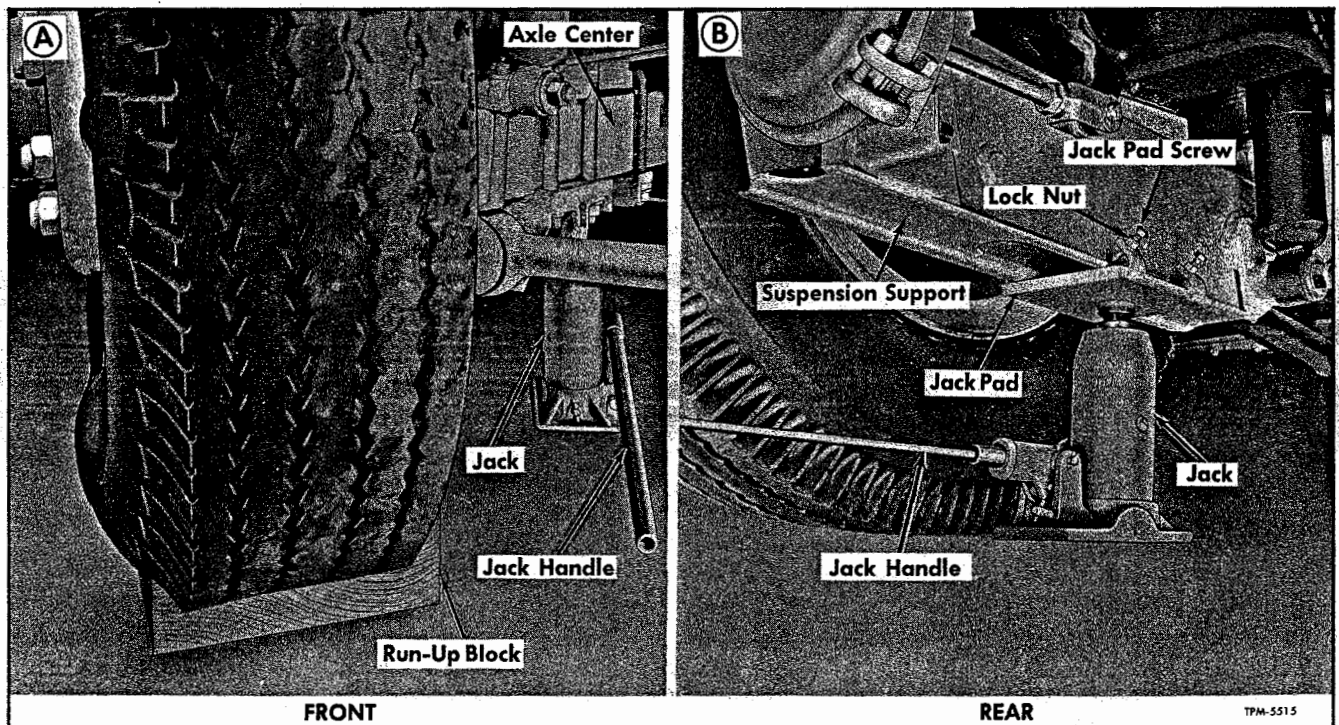
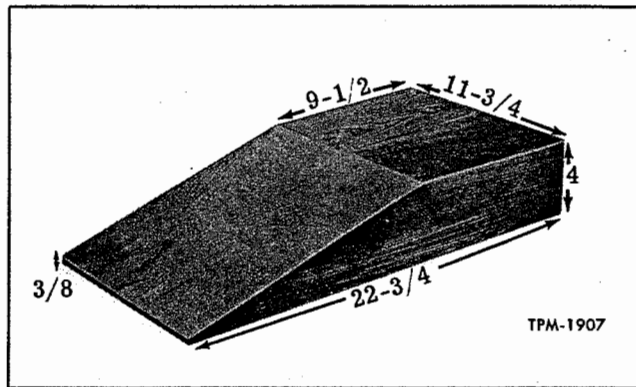

Figure 4—Method of Jacking Up Vehicle
Figure 5—Run-Up Block
2. Run flat tire up on run-up block (fig. 5) as shown in view A, fig. 4. Fully apply hand brake.
3. Place jack under front axle center as shown in view A, figure 4 and raise vehicle.
1. To change outside dual, place wooden run-up block (fig. 5) at inside tire.
5. On vehicles equipped with jack pad, position jack under jack pad as shown in view B, figure 4. Jack up axle and proceed to change wheel and tire.